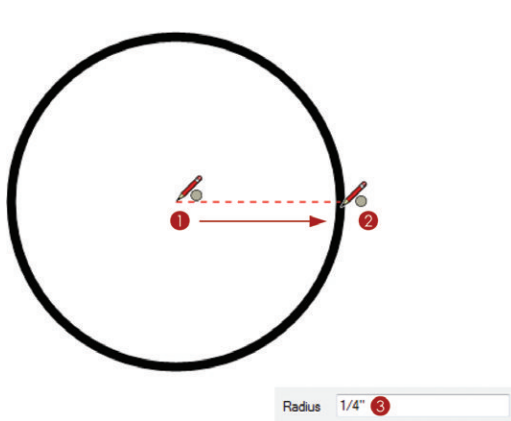

Figure 13.17 Add a precise circle as the base of the north arrow.
1. Activate the Circle tool, and set the stroke width to 1 and the Fill color as white. Click once to define the center point of the circle (Figure 13.17).